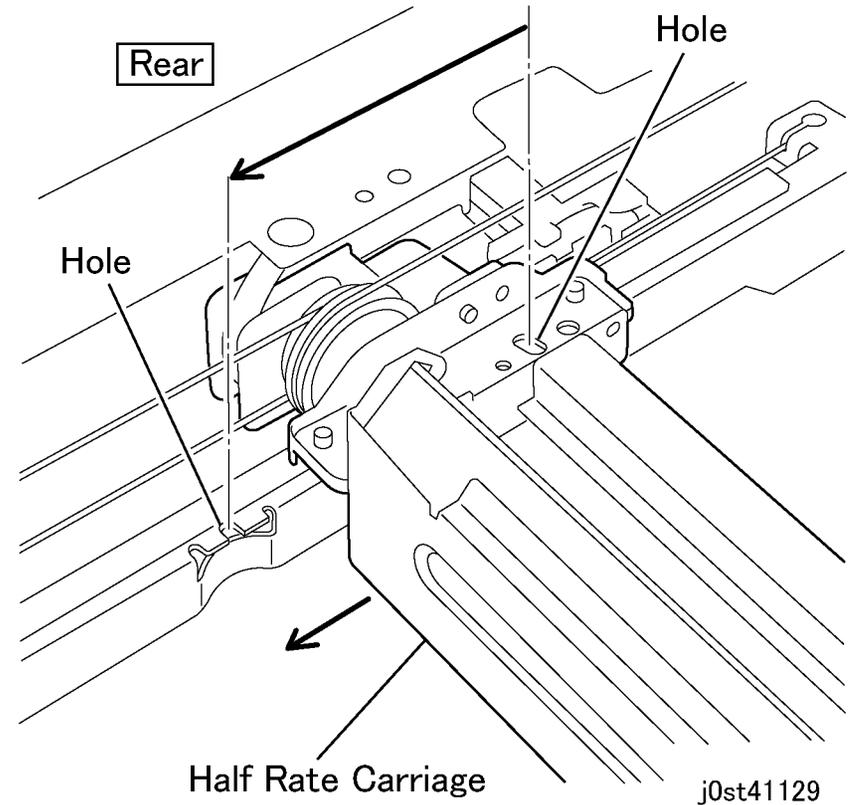

Figure 2 Aligning the Half Rate Carriage 1/3
7. Align the alignment pin holes in the Half Rate Carriage with the holes in the rail (Figure 2).